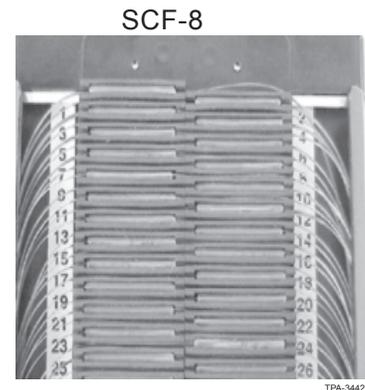

Figure 15
- Step 2:** Remove the tape from the fibres (Figure 15).
- Step 2:** Insert the protected splice (heat-shrink splice protectors are recommended) back into the first slot in the organiser (Figure 15).